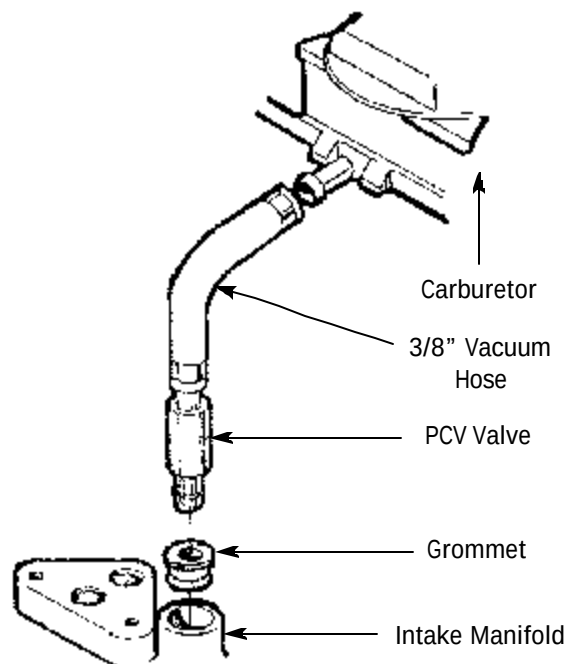

Figure 4 - PCV Valve Assembly
- PCV VALVE: Some engines use a PCV valve that is clamped to a hose between the carburetor and the intake manifold. The stock AMC manifold has a 3/8" pipe port at the intake manifold, rather than a hole to accept a rubber grommet, which the Edelbrock intake manifold uses. To reinstall the PCV valve to our manifold, you may purchase a grommet from your local AMC/Chrysler dealer (Part #J4006019), and 10" of 3/8" vacuum hose (See Fig. 4).